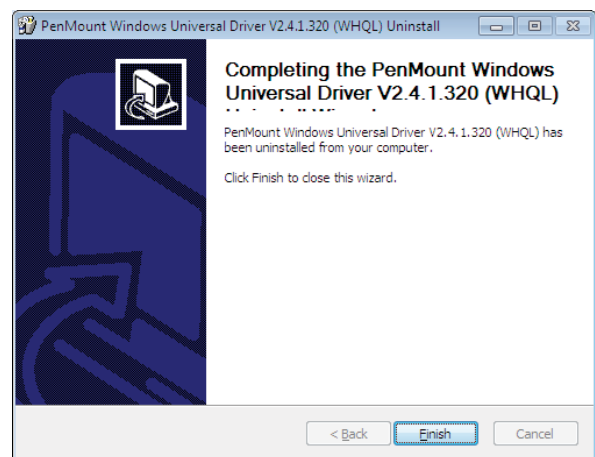

Fig.12
Step 4: A dialog window will appear, indicating the driver has been uninstalled. Click “Finish” to exit (Fig.12).